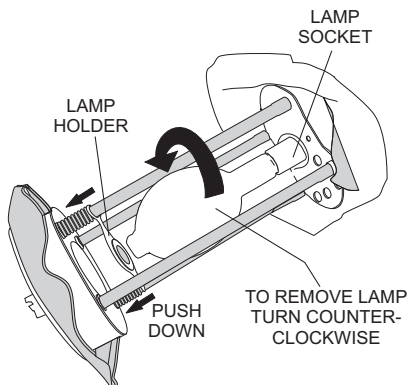

Figure 21. Removing the Lamp
3. Push down and hold the lamp holder (spring loaded) away from the lamp (Figure 21). Unscrew the lamp (turn counterclockwise) from the lamp socket.